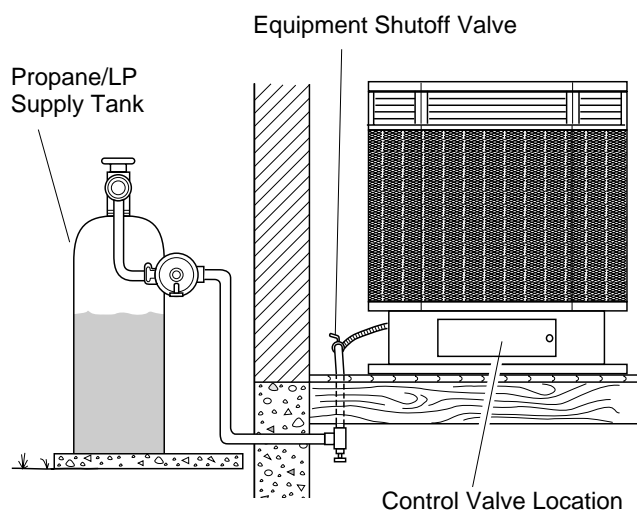

Figure 9 - Checking Gas Joints
3. Check all joints from gas meter to equipment shutoff valve (see Figure 9). Apply a noncorrosive leak detection fluid to all joints. Bubbles forming show a leak.
4. Check all joints from equipment shutoff valve to control valve (see Figure 9). Apply a noncorrosive leak detection fluid to all joints. Bubbles forming show a leak.